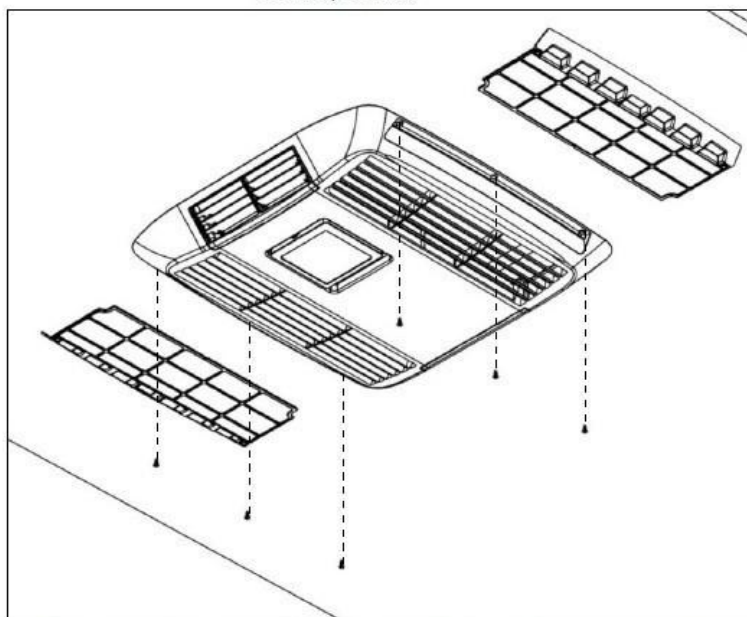

Fig 16: Remove the plenum filters and use the six self-tapping screws to ure the plenum over to the ceiling of the caravan. Be sure not to over tighten.
- Remove the filter elements by pulling them out of the plenum, and use the six self-tapping counter sunk screws to secure the covers edges to the vehicle ceiling (Fig 16). In some instances a very small pilot hole may need to be drilled to guide the screws into place.